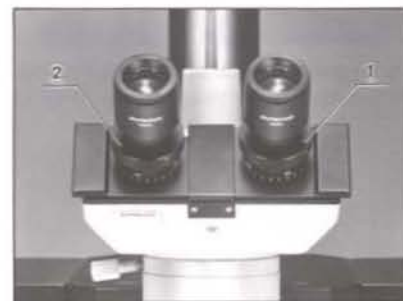

Fig. 11
After interpupillary distance adjustment in step 8, rotate the tube length adjustment ring ① on the right eyepiece sleeve to match your interpupillary distance setting which you obtained from the scale. Looking at the image through the right eyepiece, focus on the specimen by means of the focus knobs. Next, looking through the left eyepiece, rotate the tube length adjustment ring ② to focus on the specimen. By these adjustments, parfocality can be maintained when objectives are changed, with touch-up adjustment if necessary. (Fig. 11)